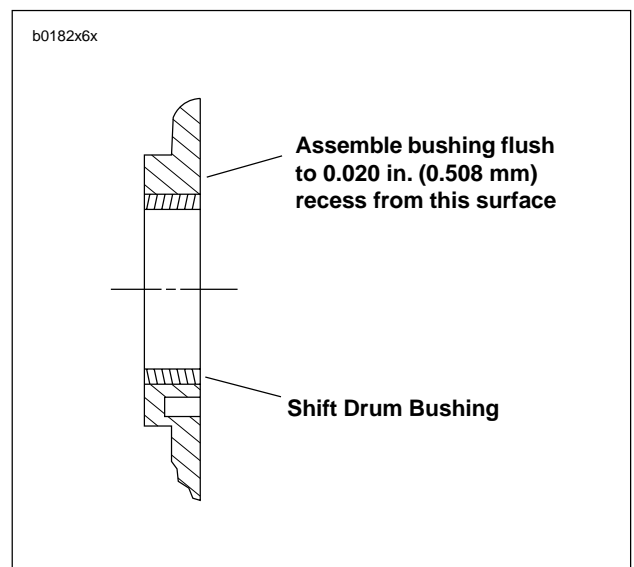

Figure 6-55. Shift Drum Bushing Assembly
2. See Figure 6-55. Lay bushing squarely over bore. Locate socket or pipe that is slightly larger than diameter of bushing. Place socket or pipe on bushing and press into bore until bushing is flush with or 0.020 in. (0.508 mm) below inside surface. If using a pressing tool larger than diameter of bushing, the pressing tool will bottom against door when bushing is flush with top surface.